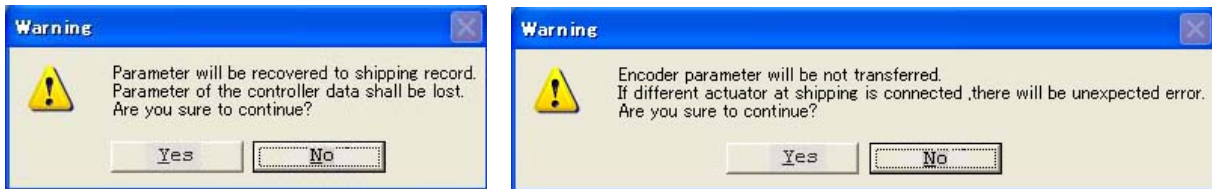

Fig. 8.15 Warning Dialog
- (3) Selecting the displayed menu **Parameter of Shipping** will display a dialog in Fig. 8.15. If you have no problem, click Yes.